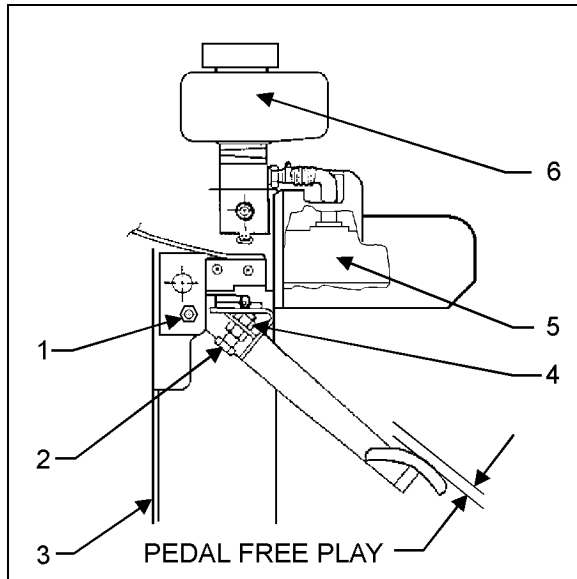

FIGURE 1: FREE PLAY ADJUSTMENT 02004
1. Free play adjustment is made by loosening nut (1, Fig. 1) and moving bolt in slot. The pedal moves down allowing a 1/4" (6 mm) of **free play** before the master cylinder (5, Fig. 1) starts to move.
2. Keep this adjustment by tightening nut (1, Fig. 1).
4. Loosen the adjustment bolt (2, Fig. 1) until it touches the pedal wall support (3, Fig. 1).
5. Loosen the adjustment bolt (2, Fig. 1) for another 1-1/2 turn. Lock in position by tightening nut (4, Fig. 1).